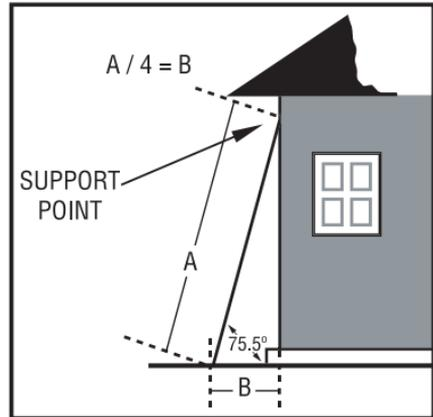
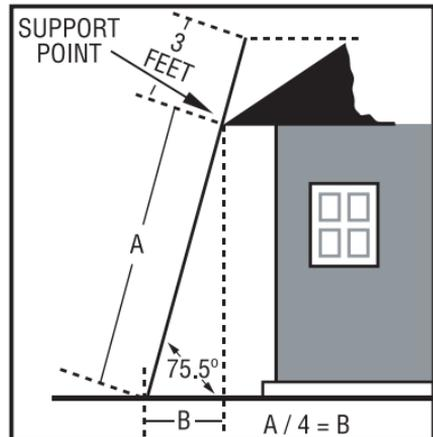

FIG. 1
FIG. 2
- Position the base of an extension ladder one foot away from the wall (Fig. 1), or top support point (Fig. 2), for every four feet of the ladder's length to the support point on the structure.
- Before climbing onto a roof using an extension ladder, be sure the ladder extends three feet beyond the roof line (see Fig. 2).